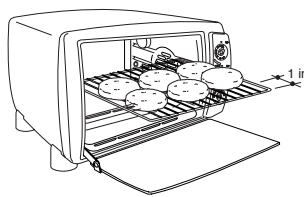
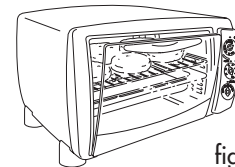

fig. 2
fig. 3
Preheat the oven for 5 minutes, with the door slightly ajar (as highlighted in Figure 1). Once the preheating time is complete, place the food being grilled directly on the wire rack (Figure 2) and close the door, leaving it ajar, as shown in Figure 3; remember to turn the food half way during cooking.
**Important:** for best results, place the food on the wire rack (O), leaving an empty space of about 1 inch near the door (see Figure 2).